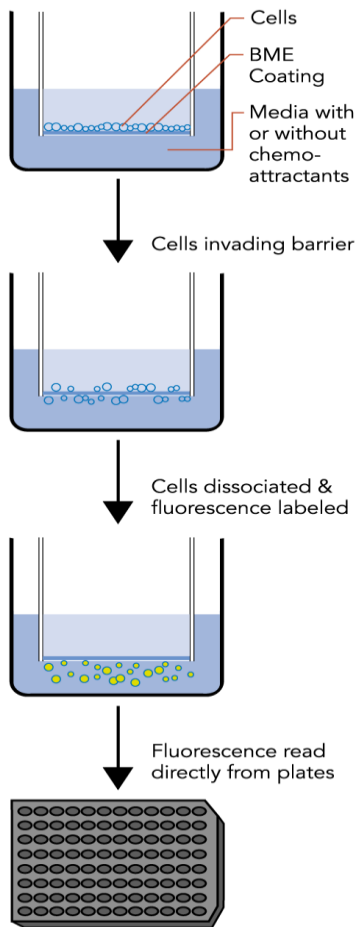

Figure 1. Illustration of protocol for Trevigen's CultreCoat® 96 Well BME Cell Invasion Assays.
Cell invasion is fundamental to angiogenesis¹, embryonic development², immune responses³, and tumor cell metastasis⁴. Trevigen's **CultreCoat® 96 Well Cell Invasion Assays** were created in an effort to accelerate *in vitro* screening modulators of these processes, and to further enable the investigation of pathways that influence cell invasion through extracellular matrices (Figure 1). These assays offer three distinct, standardized, high throughput formats for quantitating the degree to which invasive cells penetrate a barrier, consisting of basement membrane components, in response to chemoattractants and/or inhibiting compounds. Basement membranes are continuous sheets of specialized extracellular matrix that form an interface between endothelial, epithelial, muscle, or neuronal cells and their adjacent stroma. Basement membranes are degraded and regenerated during development and wound repair. They not only support cells and cell layers, but they also play an essential role in tissue organization that affects cell adhesion, migration, proliferation, and differentiation. Basement membranes provide major barriers to invasion by metastatic tumor cells.
8. Plot standard curve RFU values vs. number of cells (see Fig. 1).
- Insert a trend line (best fit) and use the equation $y = mx + b$ for each cell line to calculate the number of cells that invaded (Fig. 1).